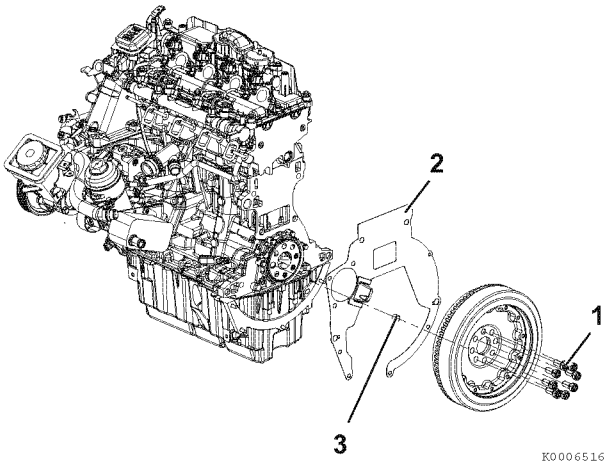

Figure 5-68
2. Remove bolts (1, **Figure 5-68**) retaining the flywheel.
3. Remove flywheel. Inspect guide bushing (3, **Figure 5-68**) in crankshaft and remove if damaged.
4. Remove torque plate (2, **Figure 5-68**).